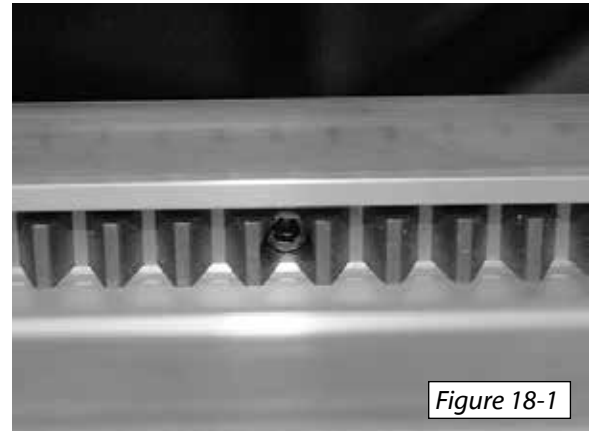

Figure 18-1
2. Loosen all of the screws in the gear rack using the 9/64" hex wrench included with the lift [Figure 18-1]. (Do not remove the screws)